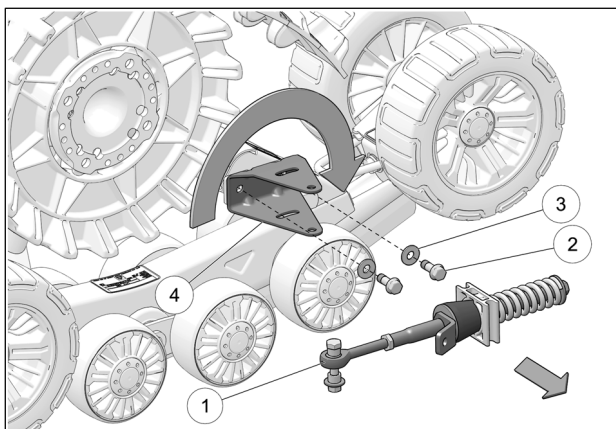

Fig. 14
5. Remove anti-rotation arm (1). Then remove bolts (2) and washers (3) securing anti-rotation bracket (4) to front Track system. Pivot anti-rotation bracket (4) 180°. See Fig. 14